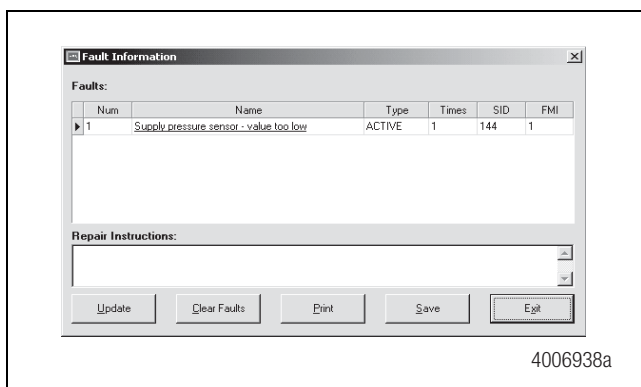

Figure 75
3. Select **Display Faults** from the pull-down menu. All active and stored faults are displayed. Figure 75.